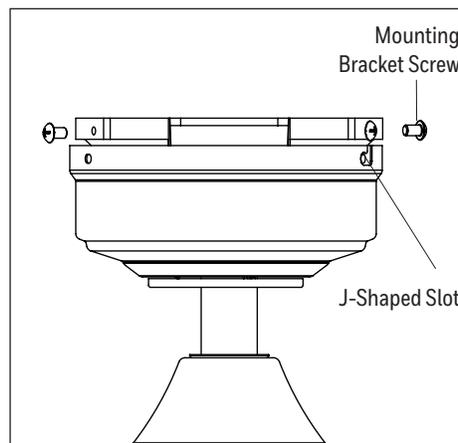

Figure 5.2
- Raise the canopy, ensure the two mounting bracket screws are aligned with the J-shaped slots in the canopy. Then turn the canopy in a clockwise direction until the mounting bracket screws are completely engaged in the J-shaped slots. Install the two previously removed mounting bracket screws in the round holes. Securely tighten all mounting bracket screws (Figure 5.2).